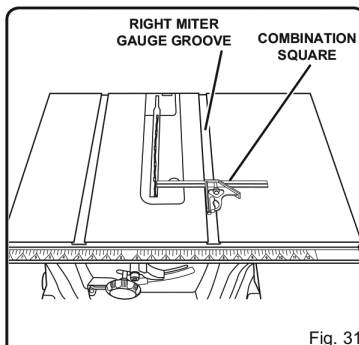

Fig. 31
See Figures 31 - 33.
- Mark next to one of the blade teeth on the front of the blade. Place a combination carpenter's square along the front of the saw table and the side of the saw blade as shown in figure 31